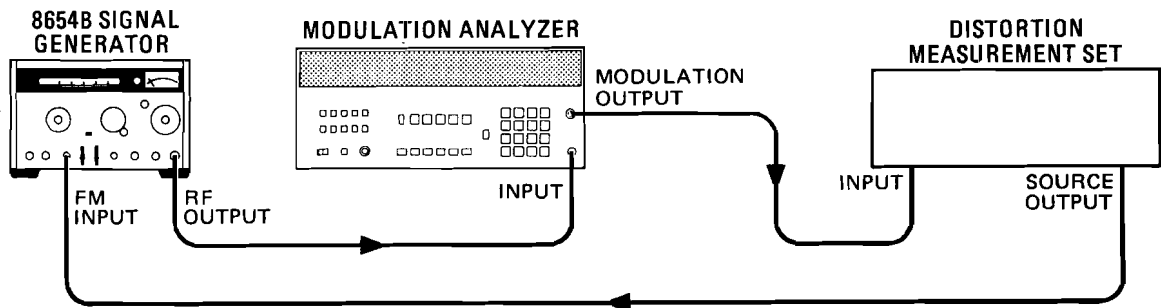

Figure P2-1. FM Distortion Test Setup
20. Connect the equipment as shown in Figure P2-1. Set either the source output or the Signal Generator FM LEVEL for 30 kHz peak deviation at a 1 kHz rate as measured on the Modulation Analyzer. The distortion should be below the limit shown for both 1 kHz and 400 Hz source frequencies.